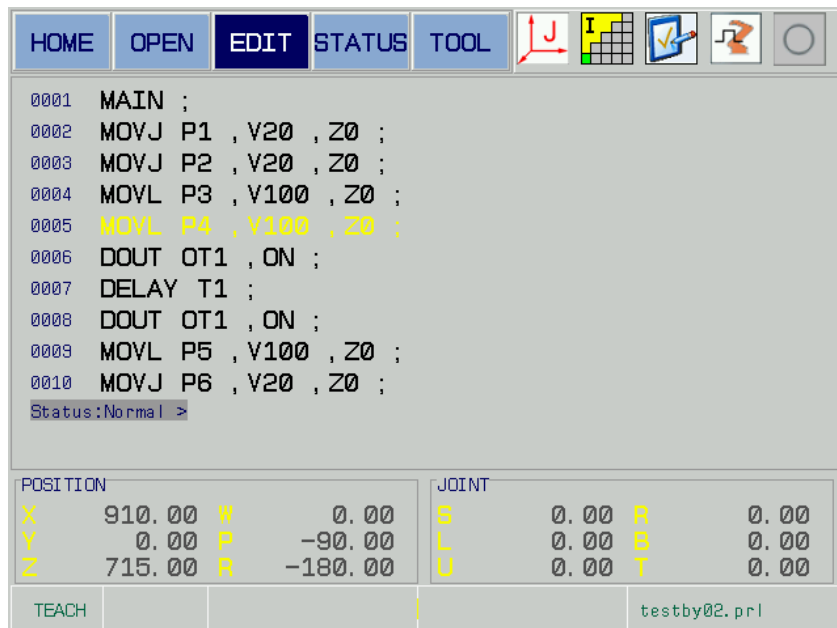

Fig. 5-32
The Fig. 5-32 regards as an example, it is supposed that the movement command MOVL speed at the 5th line is changed to 25; refer to the following steps:
1. Open the "testby02.prl", enter the program display page; shift to the edit method by [F3], and then move the cursor to the 5th program position by up/down button; refer to the Fig. 5-32.